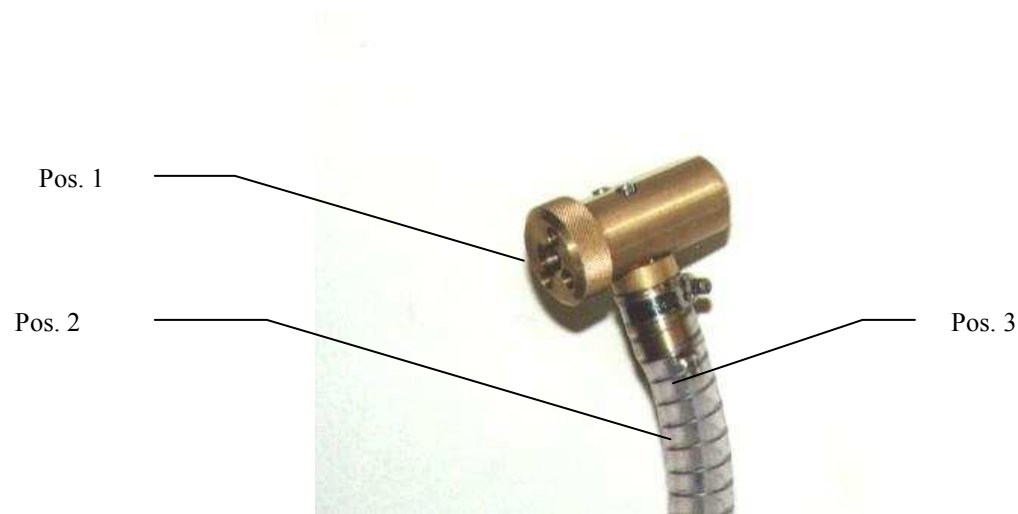

Figure 2.10 Only vacuum filler (GUSTAV type)
The only vacuum filler (GUSTAV type) performs the evacuation of the cooler circuits (fig. 2.10) is equipped with the following components:
- connection head (pos. 1 fig. 2.10)
- vacuum pipe (pos. 2 fig. 2.10)
- pneumatic pipe (pos. 3 fig. 2.10)